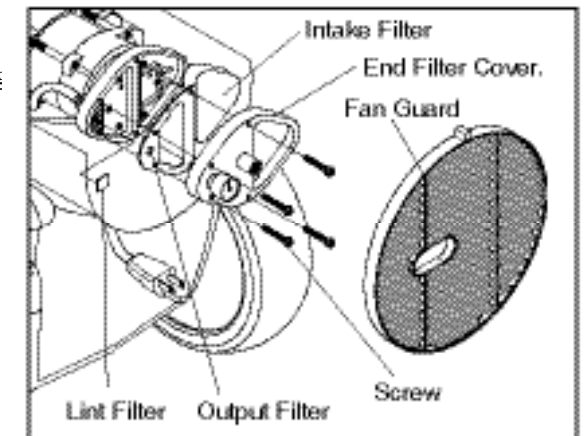

Figure 13. Air Output,Intake,and Lint Filters
- Remove Fan guard.(See Figure 13)